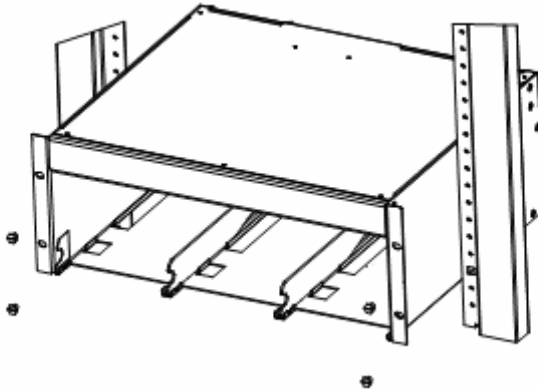

Figure 4-1 Physical installation
- 4) Install the chassis into the 19-inch standard cabinet by using eight pieces of M6 screws. Notes that use the electric screwdriver and correct torque setting (recommend 6.2 to 6.5 N.m). See figure 4-1.